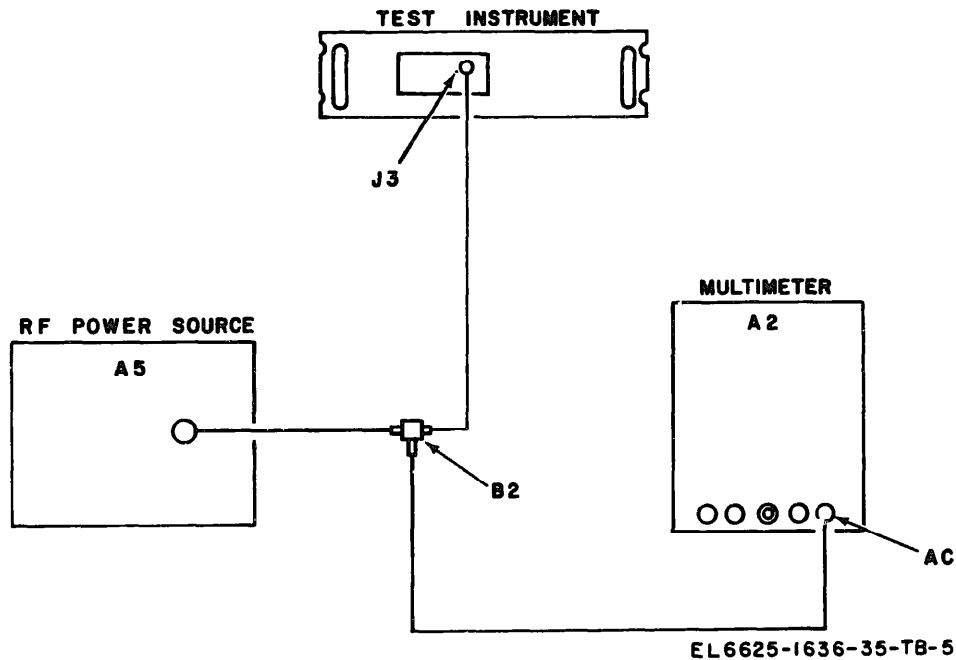

Figure 5 Input power check test setup
(1) Connect the equipment as shown in figure 5.